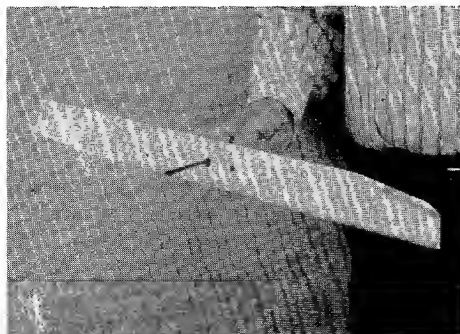

Figure 17
When grinding or filing the blade, remove equal amounts of metal from both edges to keep the blade in balance. The blade can be tested for balance by balancing it on a screwdriver. Remove metal from the heavy side until it balances evenly. (See figure 17.)
- 5 Unhook both deck springs. (See figure 17.)